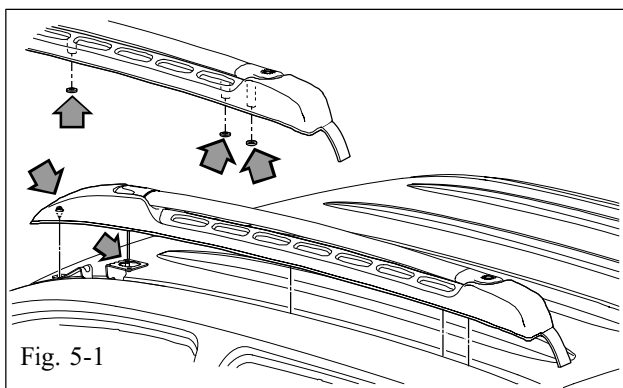

Fig. 5-1
- (a) LH side roof rack has crossbar pre-assembled. Remove adhesive backing and install 3 mastic washers onto the bottom surface mounting posts prior to installing to roof. (Fig. 5-1)
- (b) Align assembly so that the pad nose fits into the ditch and snug against the front window lace. (Fig. 5-1)
- (c) Visually align the yellow clip at the front above the hole in the bracket. Using the palm of your hand, strike firmly to seat in place. (Fig. 5-1)